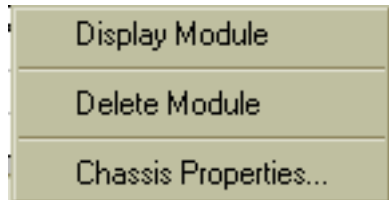
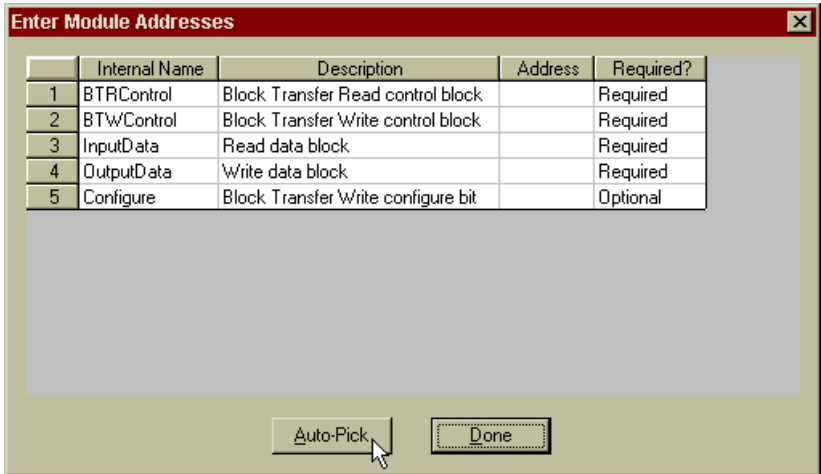

FIG. 4-16 SELECT DISPLAY MODULE
FIG. 4-17 MODULE ADDRESS DISPLAY/SELECT AUTO-PICK
- Step 10. Right click in the Module Type cell. A menu appears. Click on Display Module. (See Fig. 4-16) The Enter Module Addresses display appears. (See Fig. 4-17)